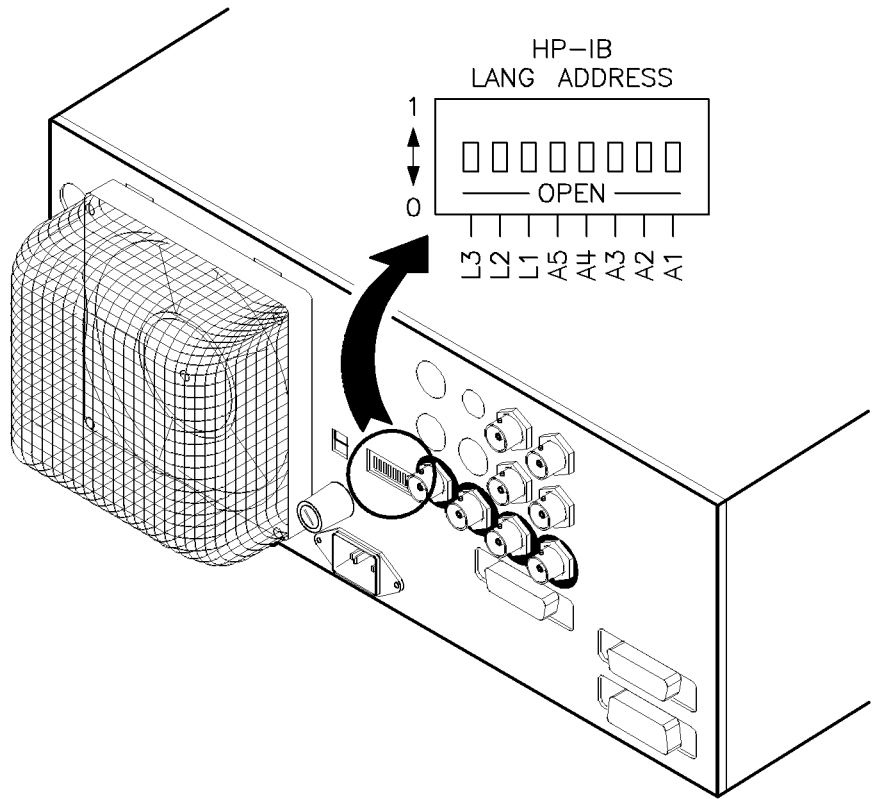

Figure 3-2. Rear Panel HP-IB Switch
To set a programming language from the front panel, the instrument language on the rear panel HP-IB switch (L1, L2, and L3 Figure 3-2) *must* be set to 7 (all 1s).
If the synthesizer displays **Rear panel HP-IB language must be 7 (111) in order to change current language (=XXX)**, the address on the rear panel HP-IB switch (Figure 3-2) is set to something other than 7 (all 1s).
If your synthesizer does not have a front panel, set the rear panel HP-IB switch (Figure 3-2) for the language you want. (See Table 3-1 for language addresses.)
To set an HP-IB address from the front panel, the instrument address on the rear panel HP-IB switch (Figure 3-2) *must* be set to 31 (all 1s).
If the synthesizer displays Rear panel HP-IB address must be 31 (11111) in order to change current address (=XX), the address on the rear panel HP-IB switch (Figure 3-2) is set to something other than 31 (all 1s).
To disable the address softkeys, set the instrument address on the rear panel HP-IB switch (Figure 3-2) to any address *other than* 31 (all 1s).
If your synthesizer does not have a front panel, set the address on the rear panel HP-IB switch (Figure 3-2) to the address you want (factory default is 19).